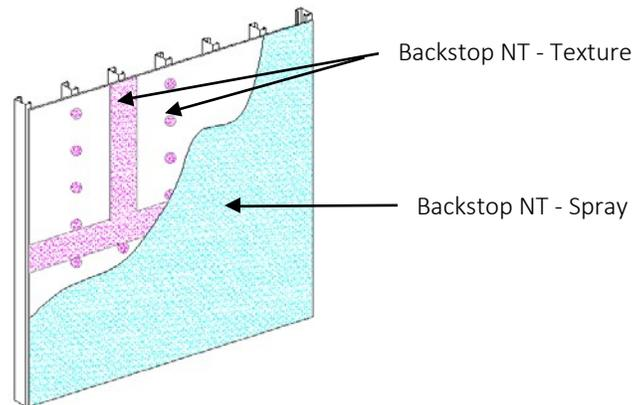

Fig. 20
- 1) Backstop NT - Spray material should be applied in a uniform, continuous film at the recommended coverage rate free of voids and pinholes – Figure 20.